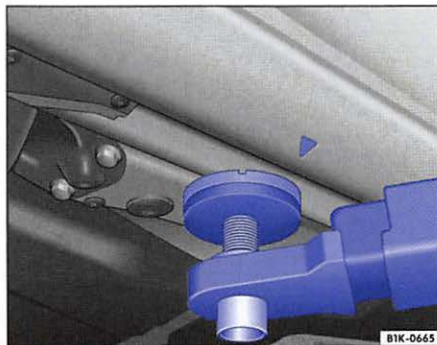

Fig. 144 Rear lift point for workshop hoist or floor jack.
The vehicle may only be raised at the lift points shown in illustrations ⇒ fig. 143 and ⇒ fig. 144. If the vehicle is lifted at different points, vehicle damage ⇒ ⚠ and serious injuries may occur ⇒ ⚠.
- Always lift your vehicle only at the designated lift points shown in the illustrations ⇒ fig. 143 and ⇒ fig. 144. Not using the designated lift points can cause the vehicle to fall off the floor jack when heavy parts such as the engine or transmission are removed.